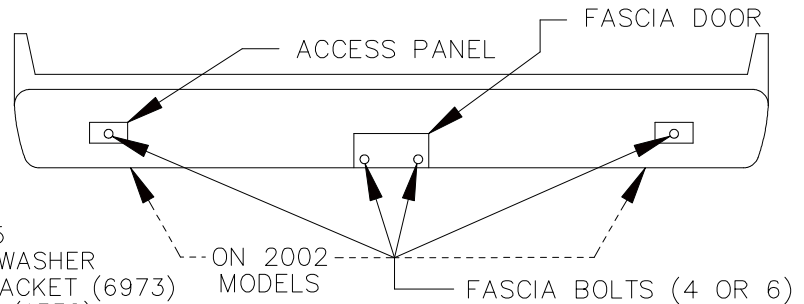

FIGURE 1
1. REMOVE FOUR (4) OR SIX (6) BOLTS FROM REAR FASCIA AS SHOWN IN FIGURE 1 AND REMOVE FASCIA.